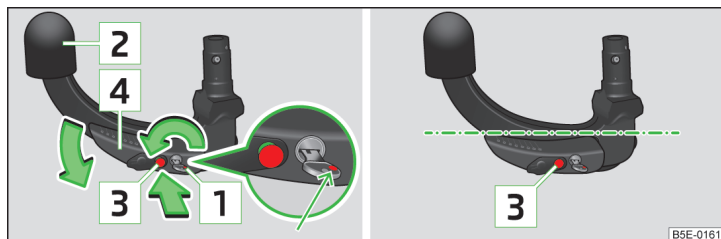

Fig. 125 Setting the ready position/ready position
- Grip the ball head below the protective cap **2** » Fig. 125.